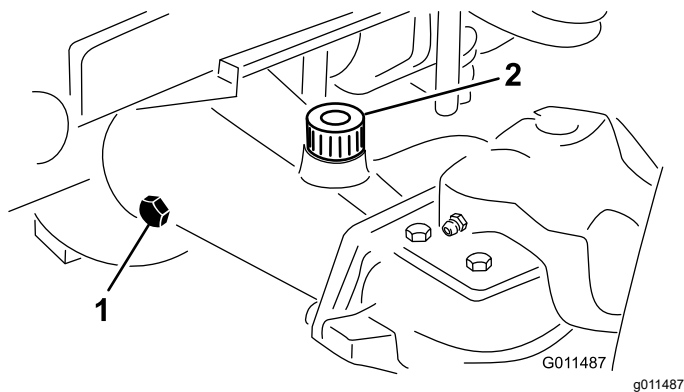

Figure 75
2. Remove a check plug from the end of the axle and ensure that the lubricant is up to the bottom of the hole (Figure 75).